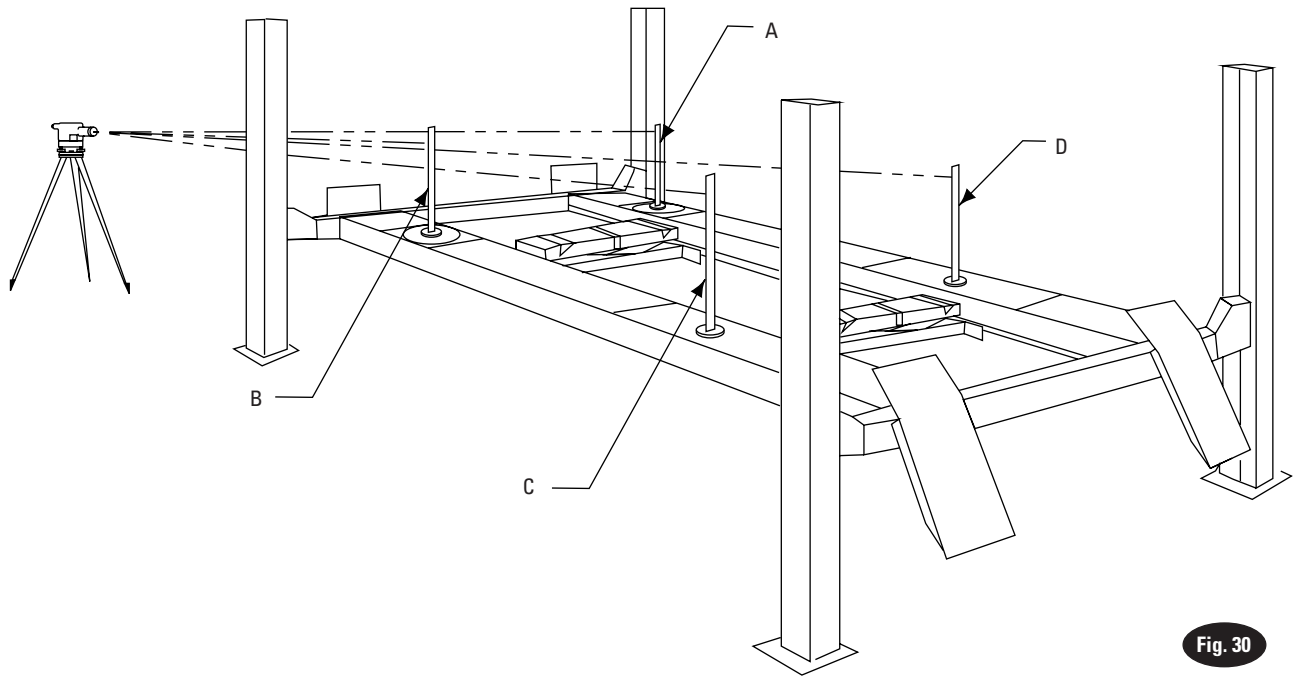

Fig. 30
- E. Next, move the target and place it on the turning radius gauge at point "B", Fig. 30.
- G. Adjust the adjustment nut on the locking latch plate adjustment stud at the top of the column at "B", Fig. 30, by loosening the jam nut and turning adjustment nut until the cross-hairs of Level align to reference mark on the target scale.